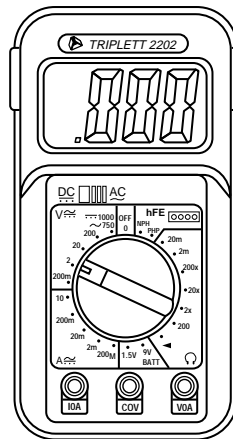

FIG. 8.9 A typical Digital Multi-Meter.
**Selecting a Meter.** You need a simple *Digital Multi-Meter (DMM)* or *Digital Volt-Ohm Meter (DVOM)* to make voltage and resistance checks in electronic circuits (see Figure 8.9). You should use only a DMM rather than the older needle type multi-meters because the older meters work by injecting a 9v signal into the circuit when measuring resistance. This will damage most computer circuits.